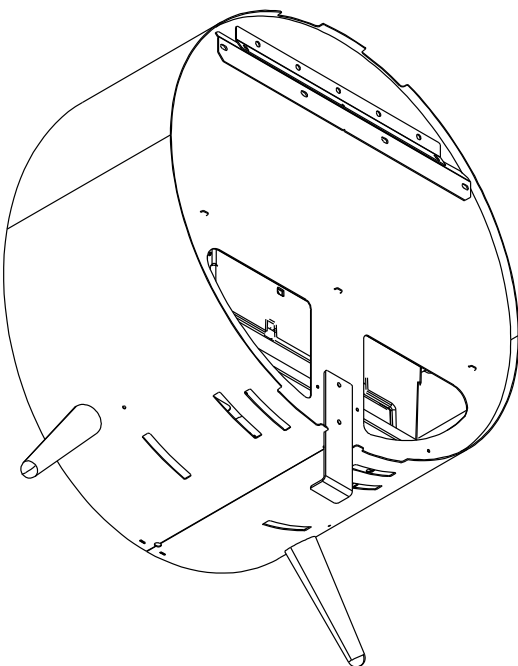

Fig 10
2. Take off the glass from the product (fig 10)
3. Take off the top plate from the device to get inside the product (fig 10)
3. Take off the top plate from the device to get inside the product (fig. 10)
6. Press Switch 'A' to the 'OFF' (0) position